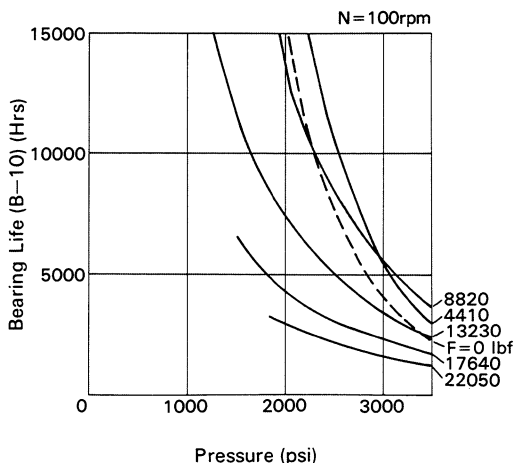

Fig. 8-1
- For a uni-directional application, motor should be installed so that side load acts as shown in figure 8.1.